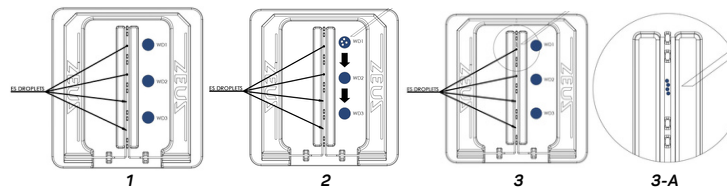

Figure 8
1. Prior to use, Electroliiquid Solution (ES) should be heated up to 37° for a minimum of 30 minutes.
2. The channels on Electro Dish (ED) should be filled with 30 µl heated ES with a micropipette.
3. As shown on Figure 8, on the ED 4 40-µl ES washing droplets are made.
5. After washing (gradual adaptation) oocytes are placed in the pools filled with ES solution (Figure 8). Cells should be placed in the midline of the channel within equal distance from the electrode rods. Do not add mineral oil (Figure 8/3-A).